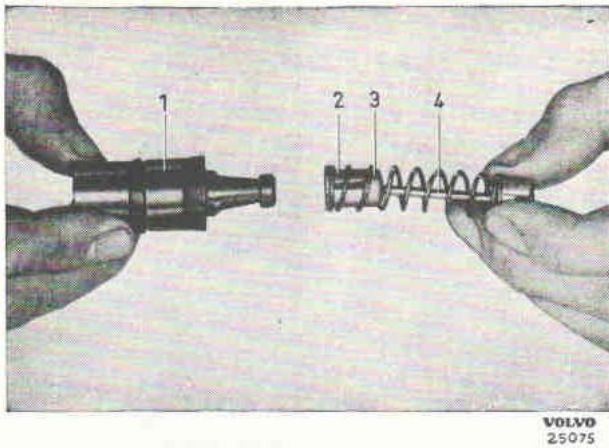

Fig. 43. Assembling the plunger.
3. Fit the spring and the spring retainer (3, Fig. 43) on the valve rod (4) and assemble these parts with the plunger, see Fig. 43. Then press down the circlip (2) onto the spring retainer so that the parts are held securely.